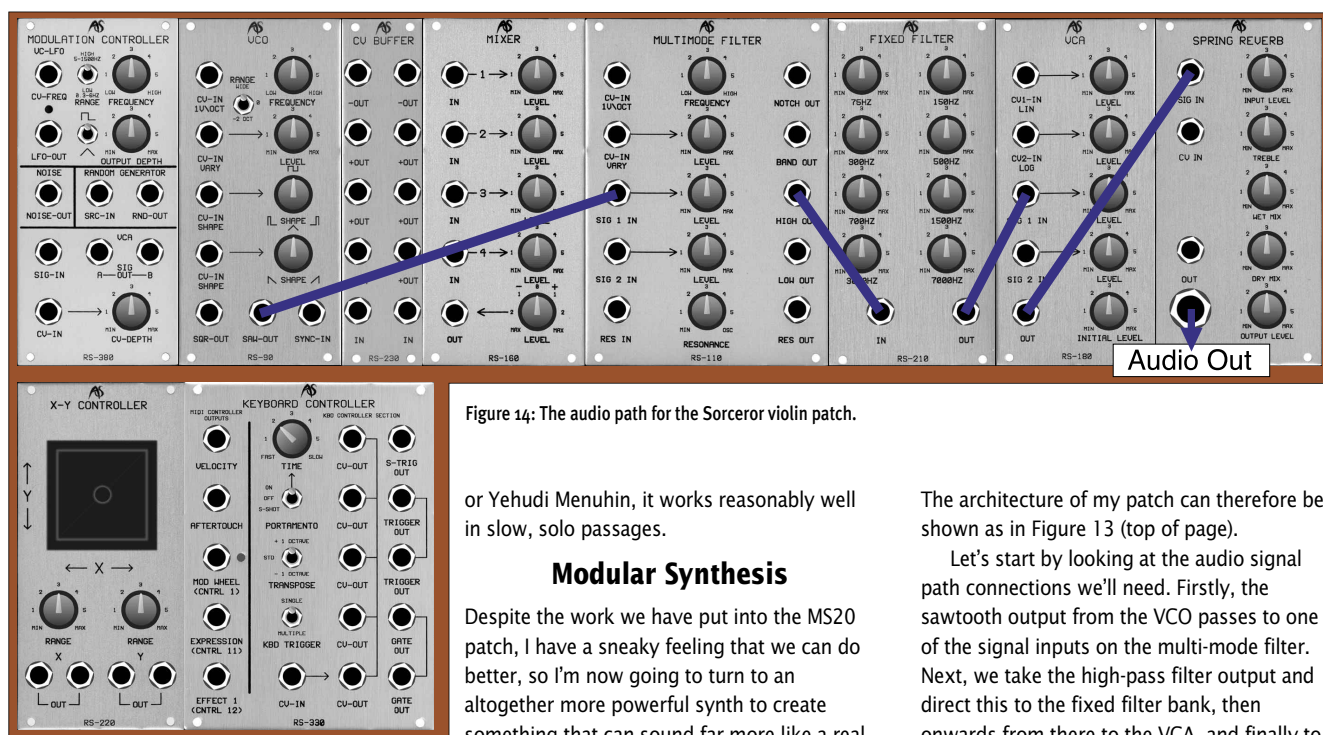

Figure 14: The audio path for the Sorcerer violin patch.
► the spring reverb before the audio reaches the outside world. I've shown these connections as blue cords in Figure 14.